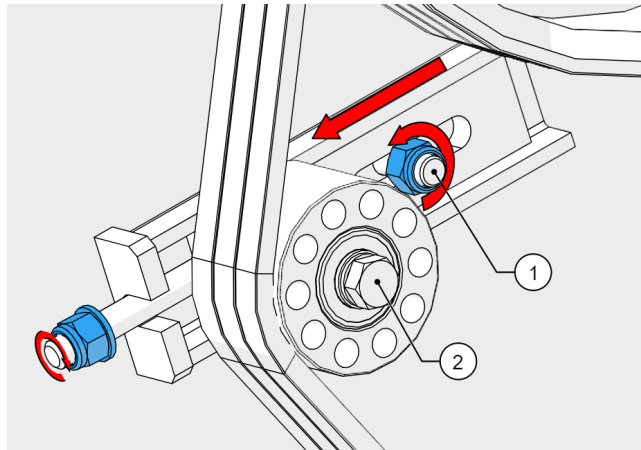

Figure 63 - Main belt tensioner (arrow indicates the direction of tension)
- a. Locate the main belt tensioner (2, Figure 63).
- b. Turn the nyloc $\frac{1}{2}$ turn (1, Figure 63).
- c. Turn the nyloc (1, Figure 63) clockwise until the tension is correct. The arrow in Figure 63 shows the direction of tension.
- d. Tighten the nyloc (1, Figure 63).